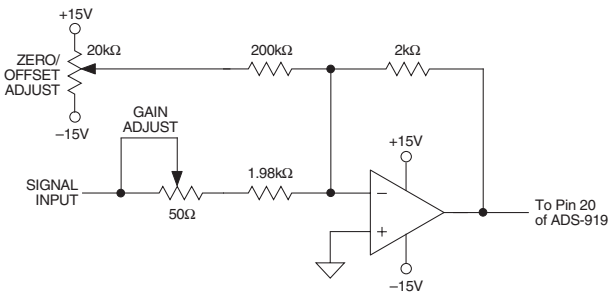

Figure 2. ADS-919 Calibration Circuit
Bypass all power supplies and the REFERENCE OUTPUT (pin 21) to ground with 4.7µF tantalum capacitors in parallel with 0.1µF ceramic capacitors. Locate the bypass capacitors as close to the unit as possible. If the user-installed offset and gain adjusting circuit shown in Figure 2 is used, also locate it as close to the ADS-919 as possible.
- initial offset and gain errors can be reduced to zero using the input circuit of Figure 2. When using this circuit, or any similar offset and gain-calibration hardware, make adjustments following warmup. To avoid interaction, always adjust offset before gain.
(Refer to Figures 2 and 3)
Any offset and/or gain calibration procedures should not be implemented until devices are fully warmed up. To avoid interaction, offset must be adjusted before gain. The ranges of adjustment for the circuit of Figure 2 are guaranteed to compensate for the ADS-919's initial accuracy errors and may not be able to compensate for additional system errors.
All fixed resistors in Figure 2 should be metal-film types, and multturn potentiometers should have TCR's of 100ppm/°C or less to minimize drift with temperature.